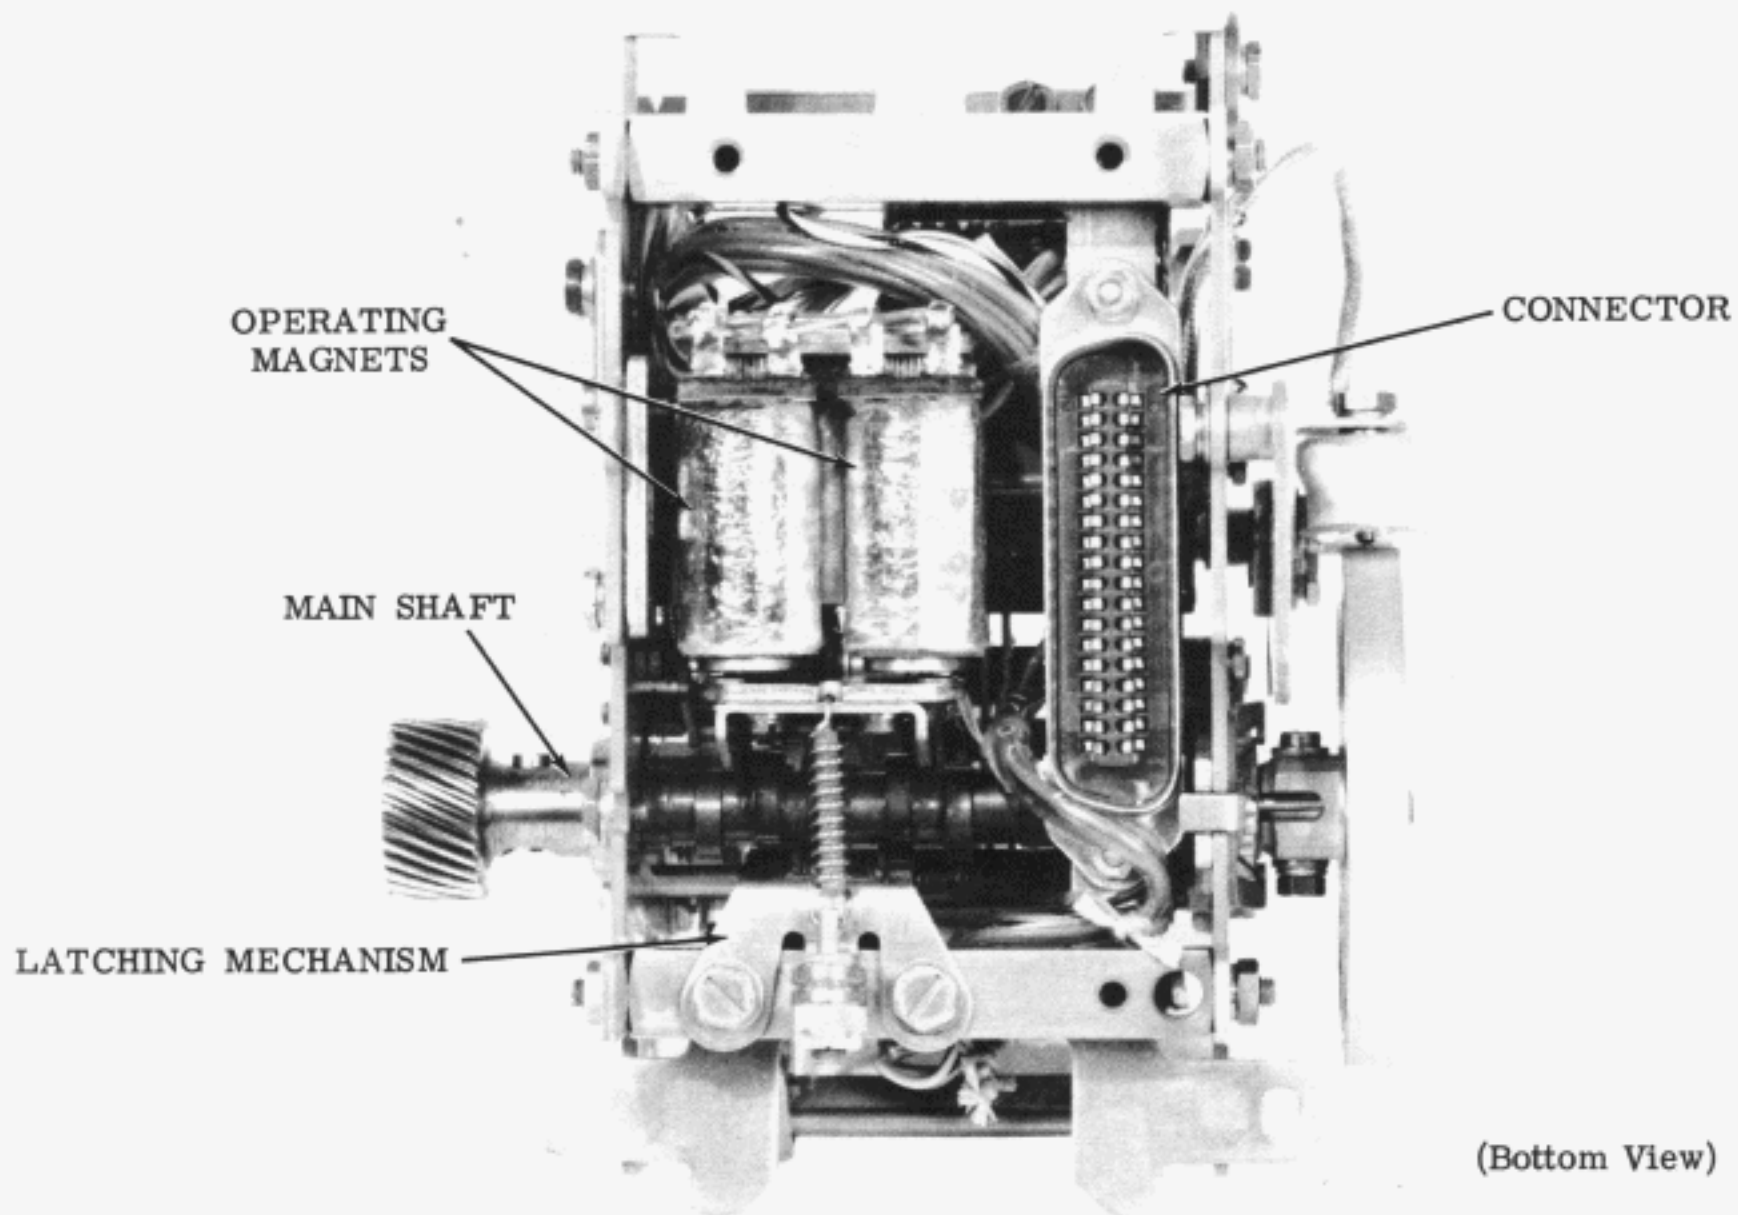

Figure 8 - High Speed Tape Reader Unit
3.16 During each revolution of the main shaft, the permanent magnet imbedded in the flywheel passes the pickup coil core (Figure 8), introducing a rapid change in the coil's flux density. This causes the coil to generate a pulse which is used for triggering electronic circuitry. Instructions for adjusting the magnetic coil are contained in Section 592-801-700TC.